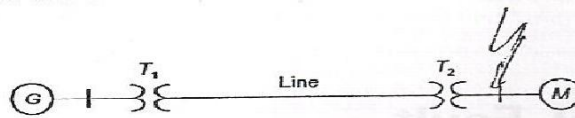

Fig. 8.1: Single line diagram.
**Example 8.1:** A synchronous generator and a synchronous motor each rated 20 MVA, 12.66 KV having 15% subtransient reactance are connected through transformers and a line as shown in Fig. 8.1. The transformers are rated 20 MVA, 12.66/66 KV and 66/12.66 KV with leakage reactance of 10% each. The line has a reactance of 8% on a base of 20 MVA, 66 KV. The motor is drawing 10 MW at 0.80 leading power factor and a terminal voltage 11 KV when a symmetrical three-phase fault occurs at the motor terminals. Determine the generator and motor currents. Also determine the fault current.